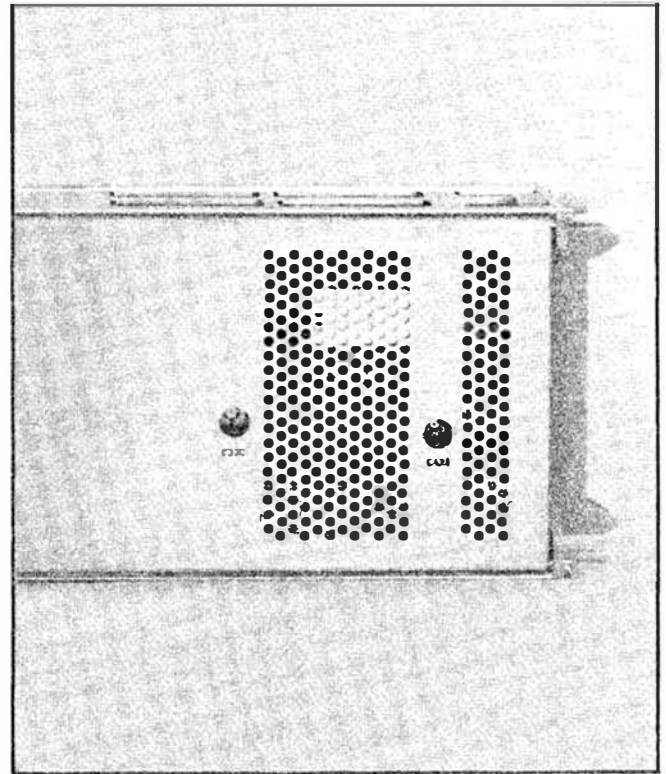

Fig. 5-6. Right side of 7A22 showing location of adjustments.
- f. ADJUST—With the frequency set to 1 MHz, adjust C425 for 4.2 div of display amplitude. See Fig. 5-6 for location of adjustment.
h. Adjust C330 (and C144 SN 8080000 and up) for minimum vertical deflection. See Fig. 5-6 for C330 location. C144 is under the plastic cover near Q153 on the left side of the 7A22 (see Fig. 4-6, page 4-10).